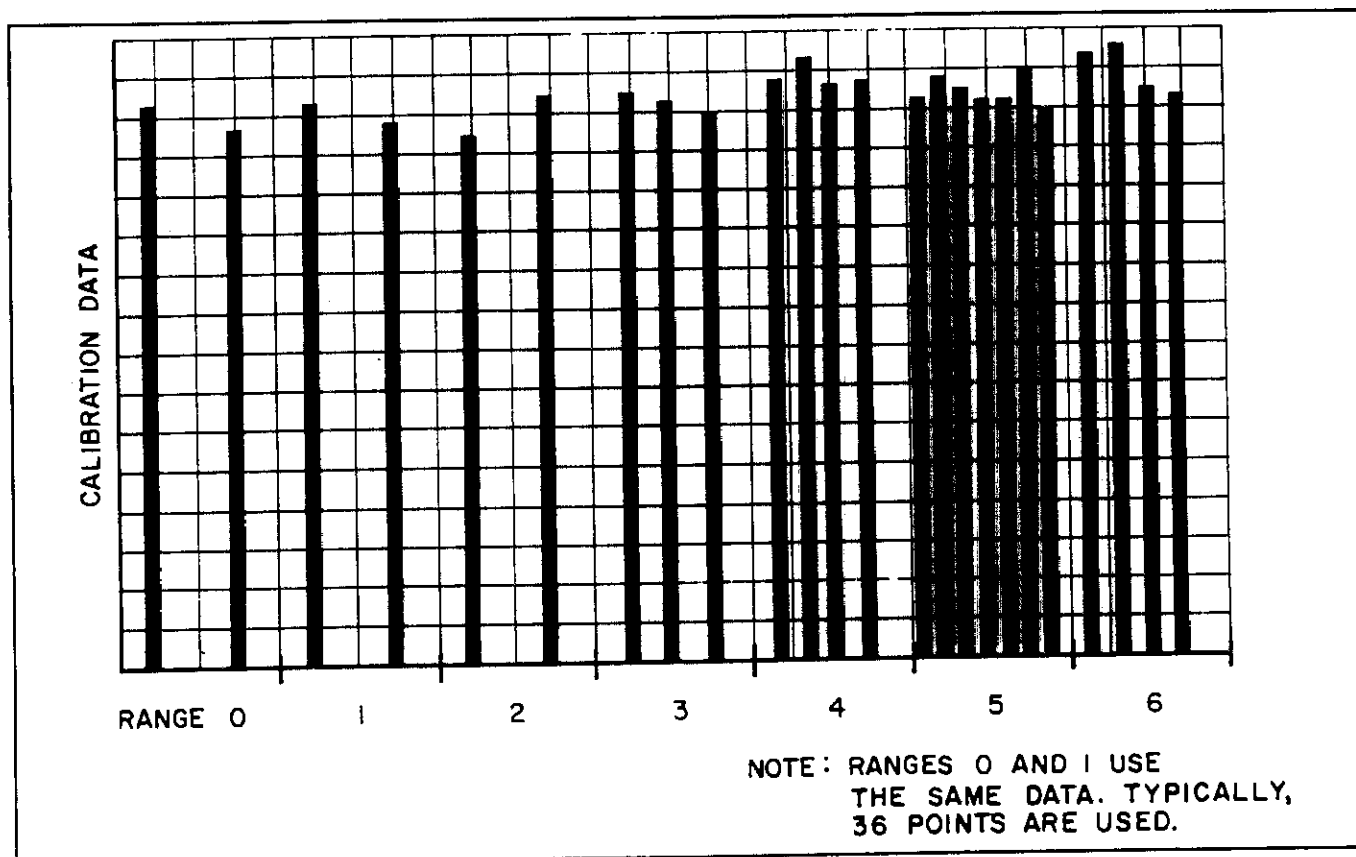

Figure 4-2. Autocalibration of Sensor
2. **Autocal Generation of Linearity.** If the 30 MHz Calibrator is to be used instead of the 14-Point linearity data, this function is simply executed by connecting the sensor to the calibrator and pressing AUTO CAL. The sensor type must be programmed and the sensor must be assigned to the applicable channel. Several points per range are calibrated in the peak transition regions of the sensor. The points may be as close as 1 dB apart in the peak and transition regions of the sensor. This is shown for a typical sensor in Figure 4-2. Not all points are shown. The power points are sensor dependent and are stored in the program.